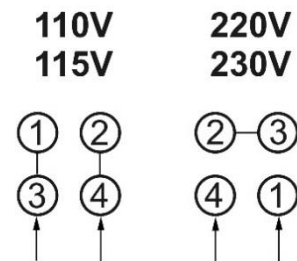

Figure 6-2: voltage conversion
1. Open main motor junction box cover, and change leads based on wiring diagram inside cover. This diagram is also shown in Figure 6-2. (NOTE: In case of discrepancy, diagram on machine takes precedence.) Reinstall cover.
2. (**Model HVBS-10DMWC only**: Remove coolant pump junction box cover, and change incoming leads for coolant pump, based on diagram shown in Figure 6-2. Reinstall cover.)